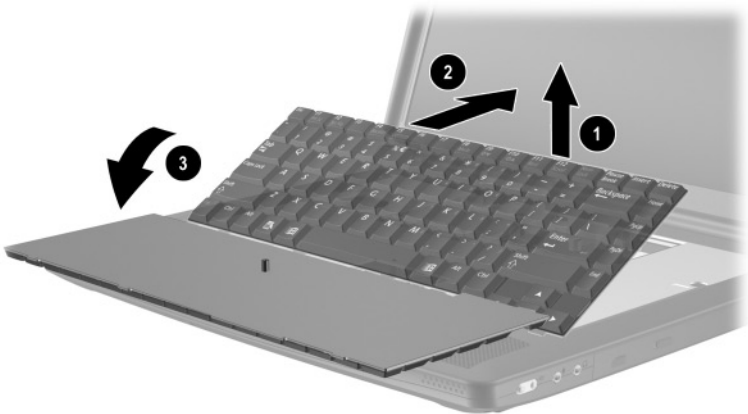

Figure 5-13. Releasing the Keyboard
6. Lift the back edge of the keyboard **1** until it rests at a 45-degree angle (Figure 5-13).